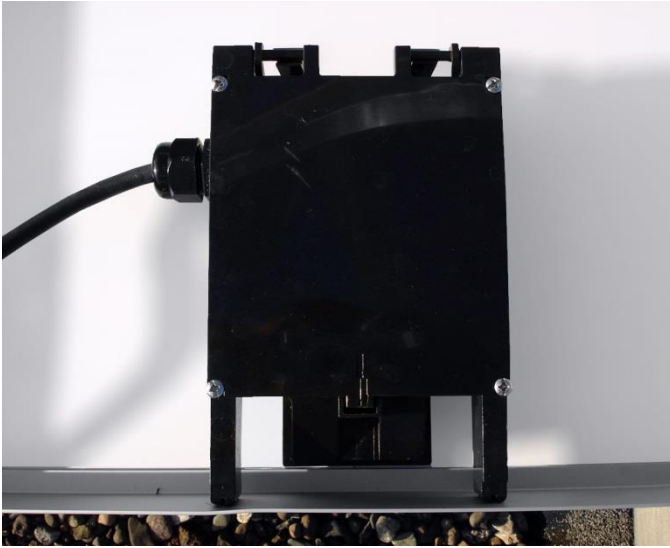

Figure 36: Attach Junction Box Cover
6. Then attach the cover to the junction box using the supplied screws, as shown in Figure 36.